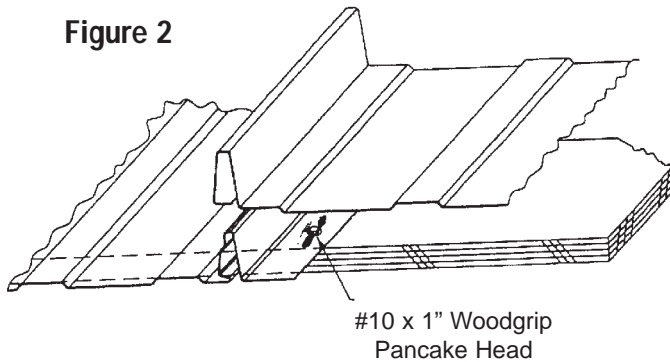

Figure 2
4. Align the second panel female edge with the male edge of the starter panel. See Figure 2. Panels must be flush at eave edge. Remember, panels should be extended over eave by 1".